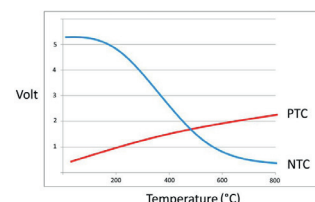

Figure 1: Example of PTC / NTC temperature behavior
**Function:** An electrical resistor is installed in the measuring tip of the exhaust gas temperature sensor, the value of which changes depending on the temperature. These resistors are called thermistors and are divided into two groups. Here, a distinction is made between NTC thermistors and PTC thermistors, depending on their temperature behavior ( Figure 1 ).